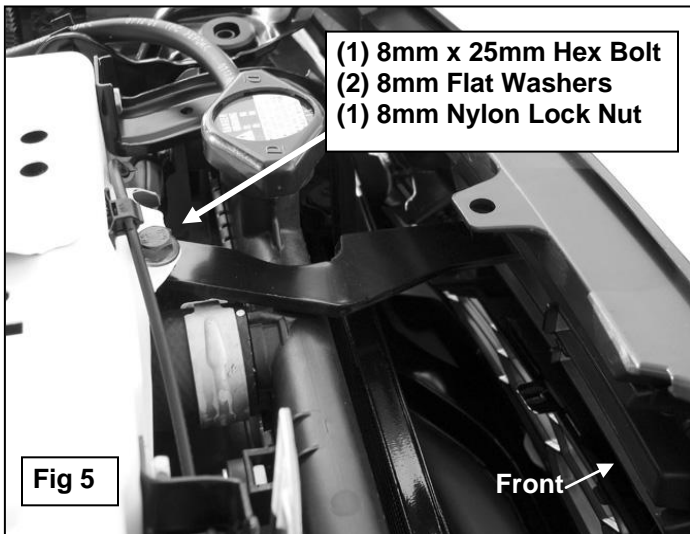

Fig 5
6. Select the driver side Top Bracket and slide it through the opening in the factory grille, **(Figure 5)**.
7. Bolt the Top Bracket to the existing hole on the top radiator support with the included (1) 8mm x 25mm Hex Bolt, (2) 8mm Flat Washers and (1) 8mm Nylon Lock Nut, **(Figure 5)**. Do not tighten hardware at this time. Repeat this step for driver side Top Bracket installation.